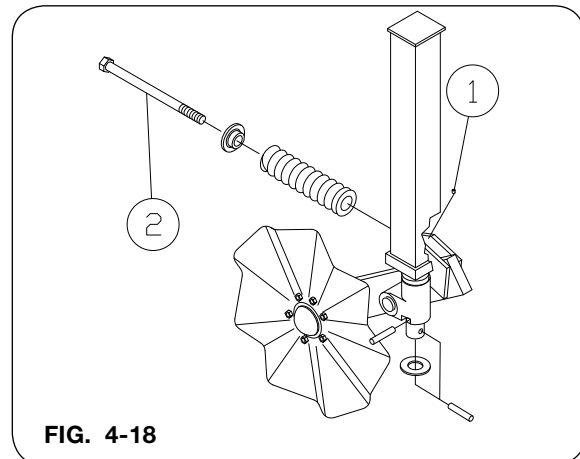

FIG. 4-18
1. Loosen the set screw retaining the spring bolt on the coulters arm (Fig. 4-18).
2. Slowly unscrew the spring bolt which will relieve spring pressure (Fig. 4-18).